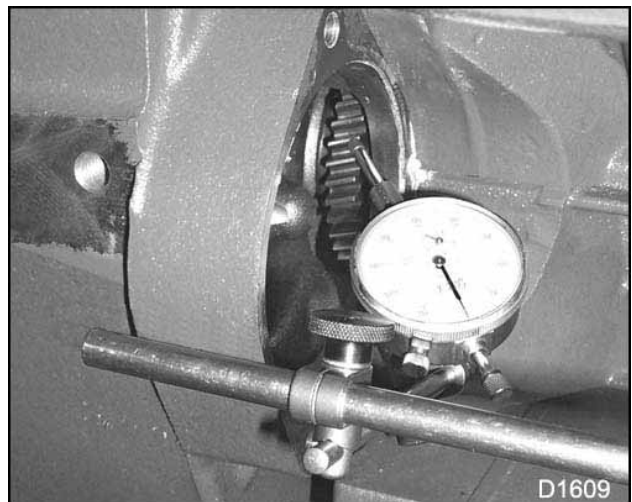

Figure 578 Idler gear backlash
13. Check the idler gear backlash. See (Figure 578).